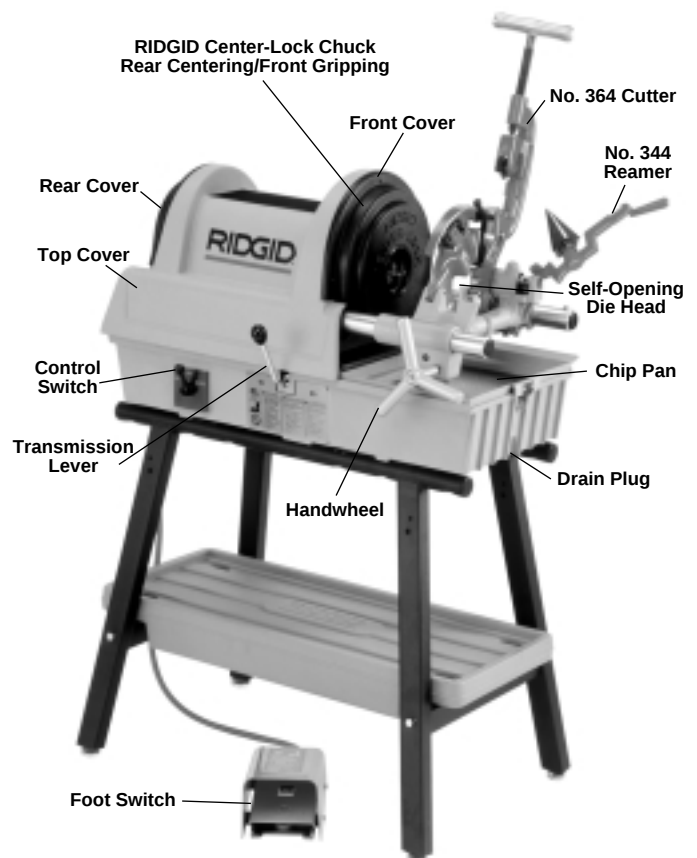

Figure 7 – 1822-I Threading Machine
1. Make sure threading machine is unplugged and the control switch is set to the OFF position (Figure 7).
4. Make sure the foot switch is present and attached to the Threading Machine (Figure 7).